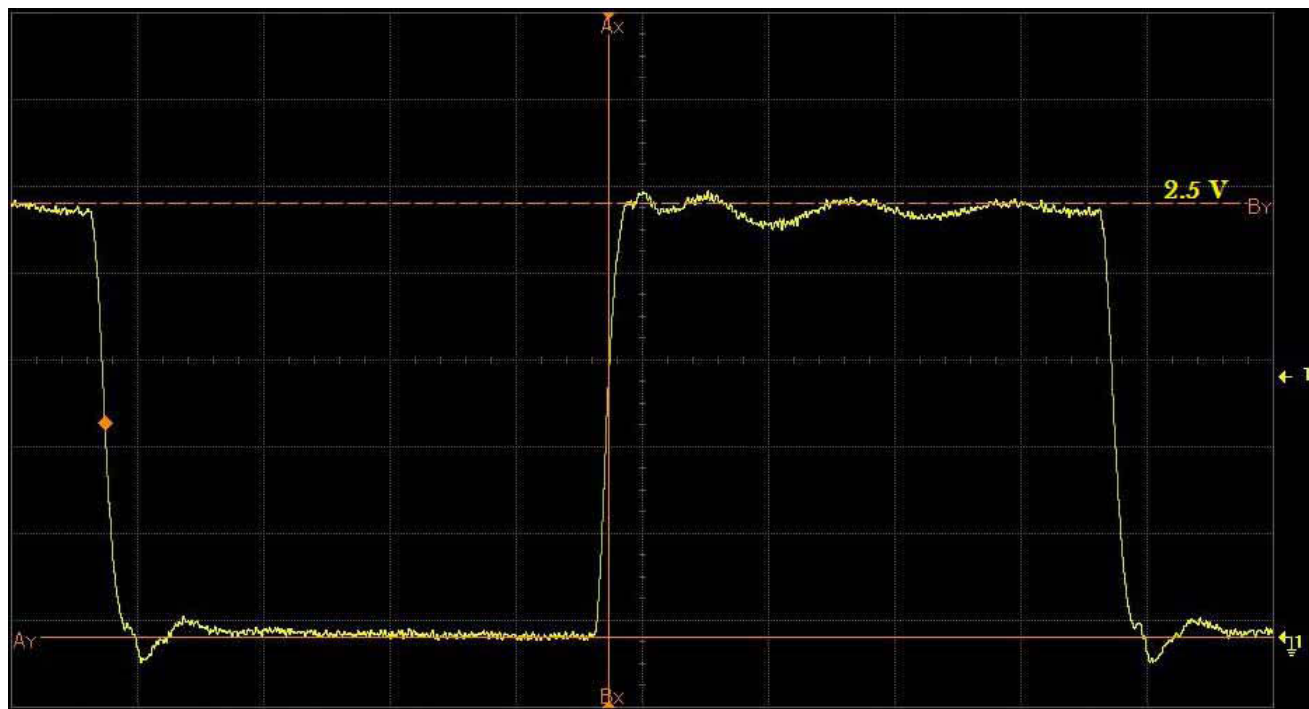

Figure 3. Rev B Device (55 Ω Driver) into 50 Ω Trace
- Figure 3—Rev B device (2.5 V, 55 Ω driver) driving a 50 Ω trace.